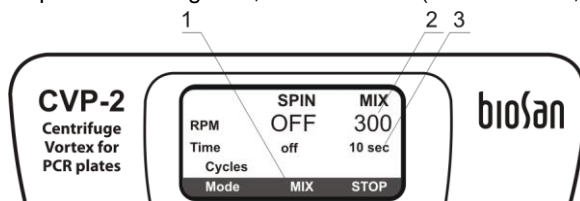

Fig. 6. Vortexing
4.11.1. Select the vortexing mode (indication **MIX** of **Mode** parameter, fig. 6/1).
4.11.2. Set the required vortexing speed, from 300 to 1200 rpm (increment 100 rpm, fig. 6/2).
4.11.3. Set the required vortexing time, from 1 to 60 s (increment 1 s, fig. 6/3).